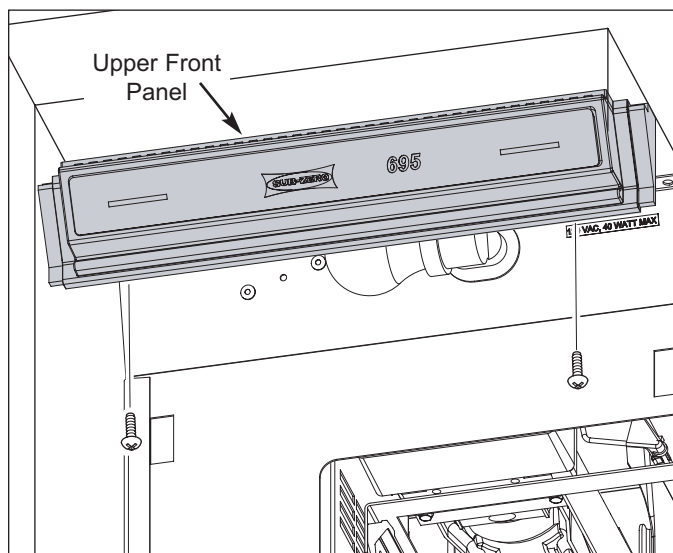

Figure 7-129. Upper Front Panel
**NOTE:** There is no upper light diffuser in the freezer. The light bulbs are located directly behind the upper front panel (See Figure 7-129).
To remove a upper front panel (See Figure 7-129):